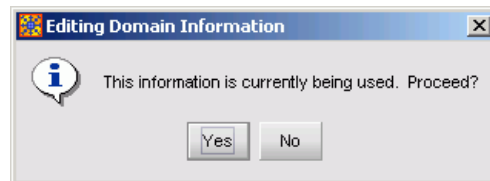

Figure 3-31 Editing Domain Information Dialog Box
- b. At the *Available Addresses* field, select (highlight) the switch to be reconfigured and click *Change*. The *Editing Domain Information* dialog box displays (Figure 3-31).